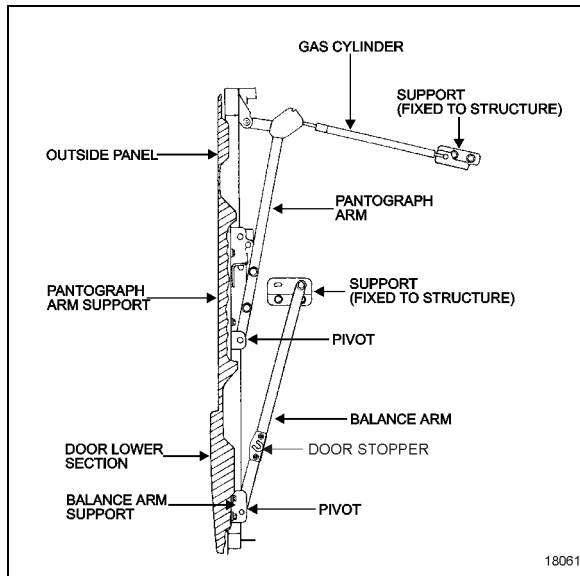

FIGURE 77: BAGGAGE COMPARTMENT DOOR
*Refer, if needed, to Figure 77 for identification of door components.*